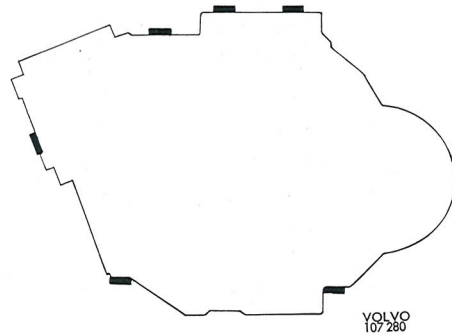

Fig. 8-88. Location of clamps for middle connector
9. Install the left half. When assembling use clamps with part No. 676234, which are fitted with pliers as shown in Fig. 8-71. Concerning the location of these clamps, see Fig. 8-88.